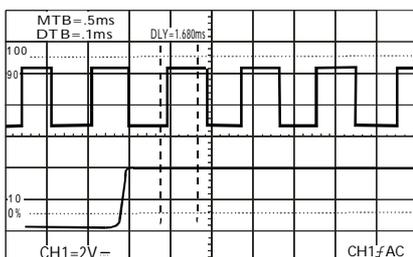

Figure 5-9 ALT Mode
- 2 . Set the MAIN/ALT/DELAY button to ALT mode, and set the time range of the DELAY TIME/DIVE control to be magnified. The figure 5-9 below shows the main and delayed sweeps appear simultaneously on the screen, and the window sector will appear.